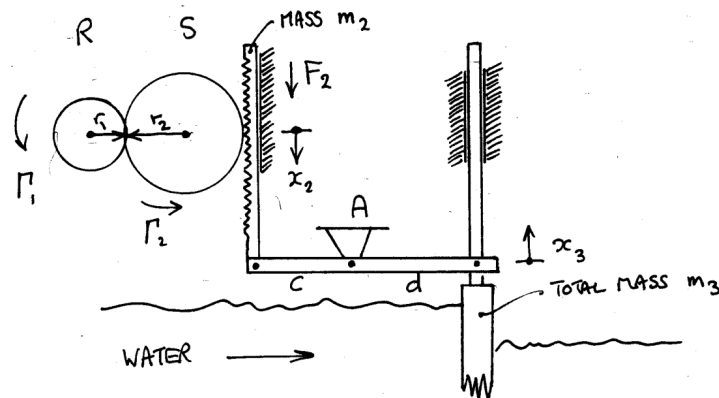

Figure 8.
8. A weir control system consists of an input shaft R which is geared down to drive a rack of mass M_2 . The rack is connected by a lever to a sluicgate of mass M_3 with a fulcrum at A. The layout is shown in Figure 8. Design considerations dictate that the gate should be balanced when motionless and be able to rise at a certain minimum acceleration. Obtain an equation for the acceleration \ddot{x}_3 of the sluice gate in terms of all other parameters in the system. The gears are frictionless and the lever does not deviate significantly from its horizontal rest position. What does the first design consideration imply? Use the consideration to full simplify the result of \ddot{x}_3 .